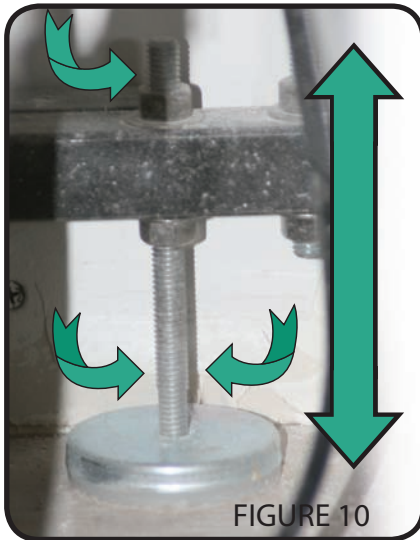

FIGURE 10
2. Adjusting the feet. Begin by checking the levelness of the tub by placing a level on the top of the tub and checking the level side to side and front to back. With the levelness determined, to adjust the feet start at a corner foot and loosen the top .375" nut approximately .5" by turning the nut counter clockwise. Adjust the bottom .357" nut up or down to achieve proper height. Repeat for the other five feet. Once all the feet have been adjusted to the proper height, check the levelness again. Now that the levelness of the tub has been verified, tighten the top .375" nuts down against the frame. Figure 10